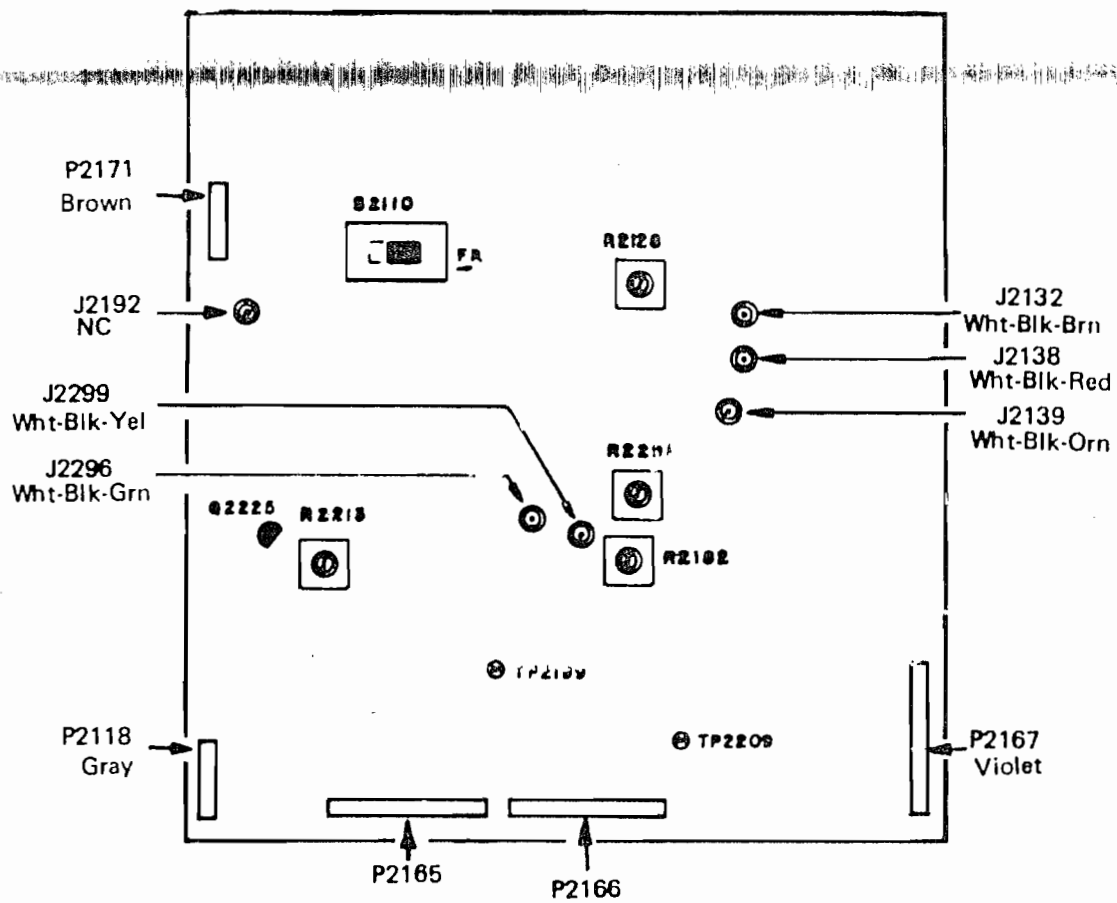
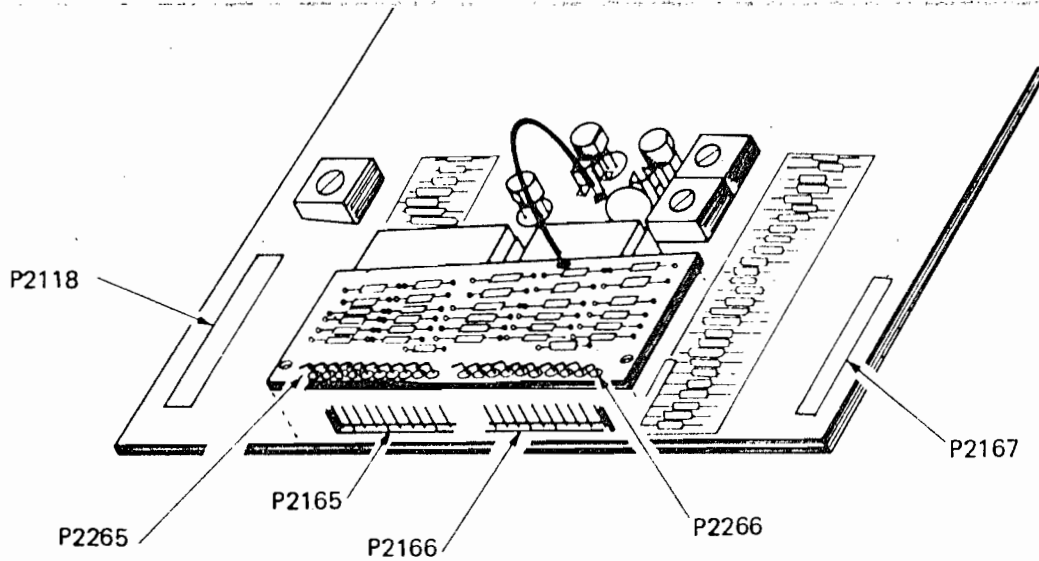

FIG. 1A
FIG. 1B
- () 4. Connect the multi-wire and coaxial cables provided in the kit from the Readout circuit board to the designated circuit boards as follows (refer to Fig. 1A and Fig. 1B):